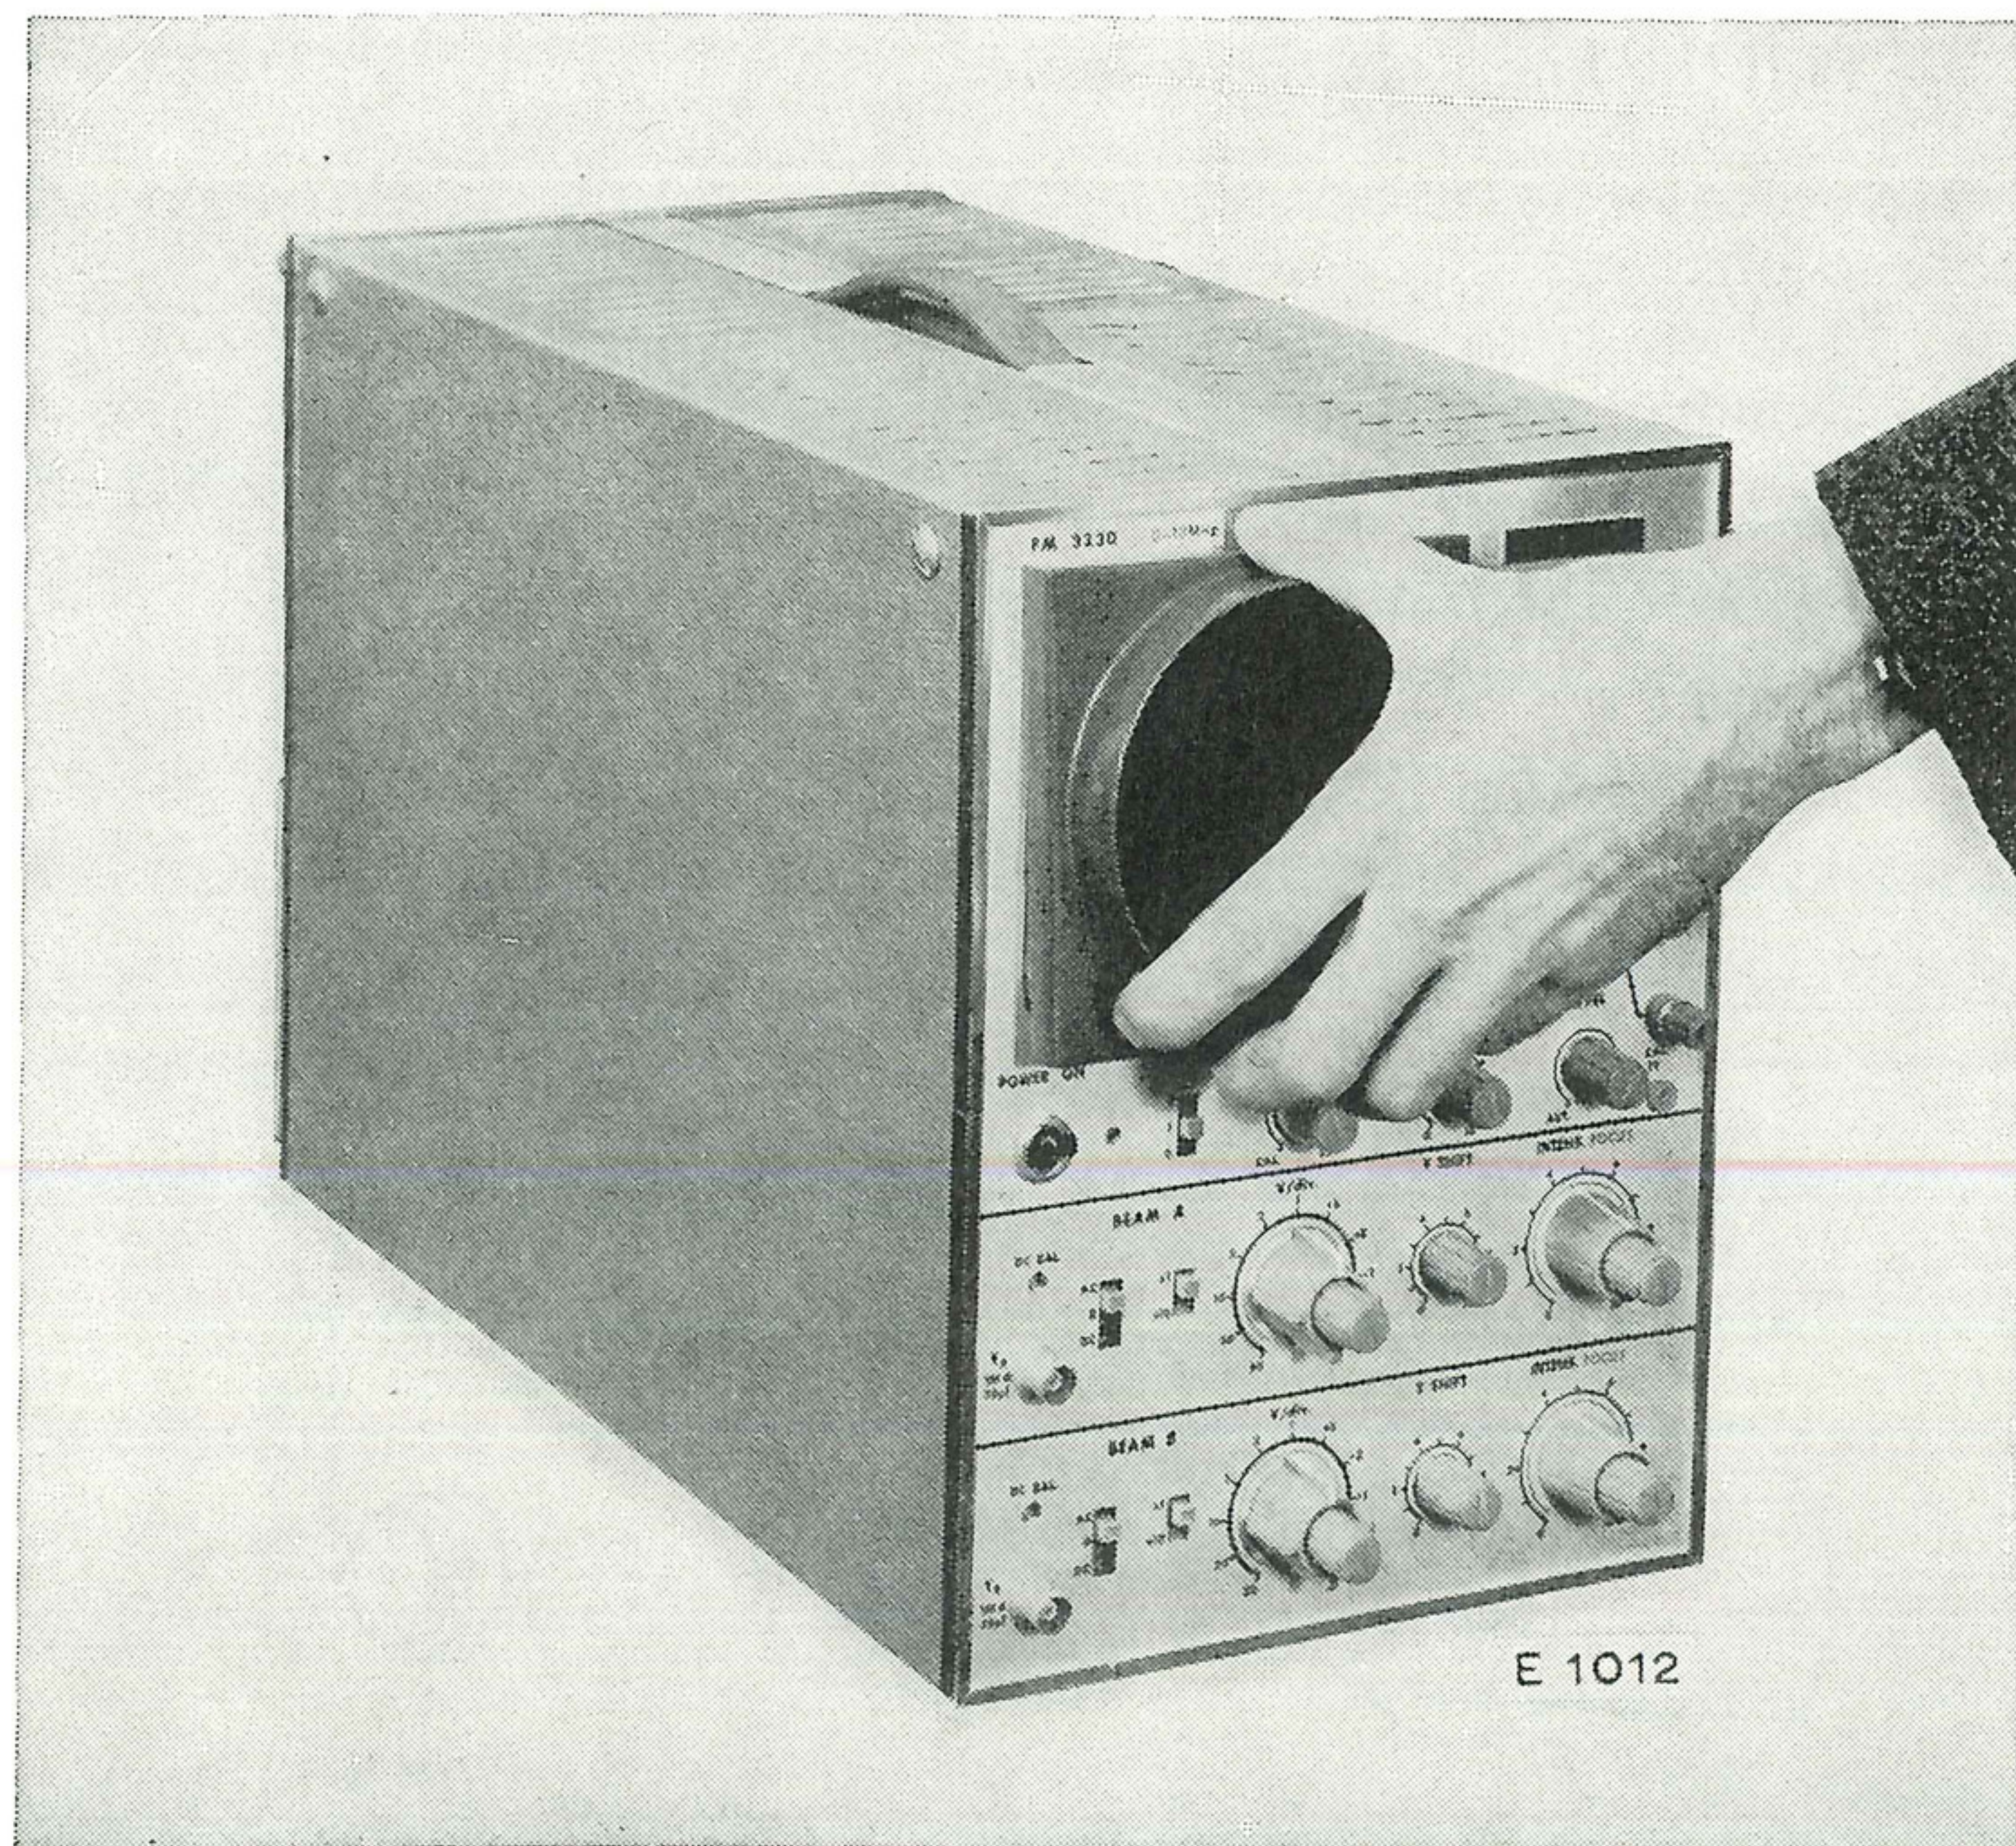

Fig. 10. Removing protective cap and measuring graticule
C. REMOVING THE PROTECTIVE CAP AND LATTICE (see Fig. 10)
- Grip the cap as shown in Fig. 10 and pull back the lower part.